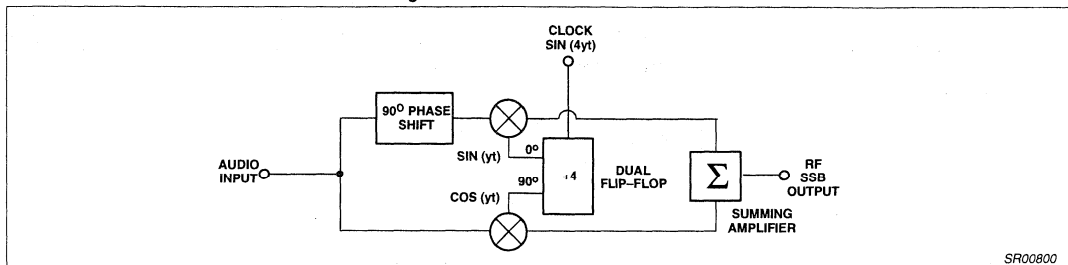
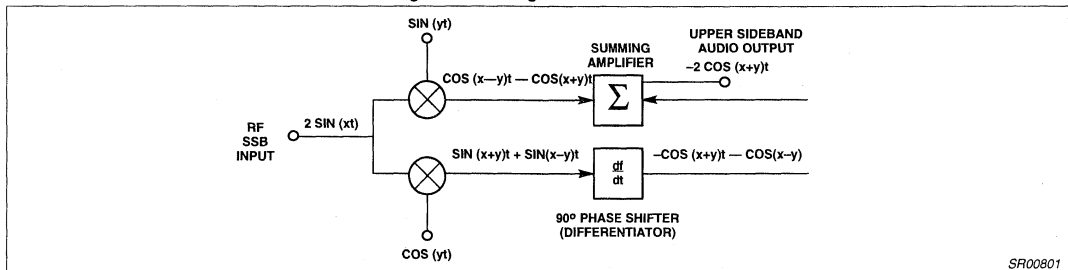

Figure 5. Phasing Method Generator
Figure 6. Phasing Method Detector with Simplified Mathematical Model
Figures 5 and 6 show block diagrams of a generator and demodulator which use the phase method. Figure 6 also includes a mathematical model. The input signal ( $\text{Cos}(Xt)$ ) is fed in-phase to two RF mixers where "X" is the frequency of the input signal. The other inputs to the mixers are fed from a local oscillator (LO) in quadrature ( $\text{Cos}(Yt)$  and  $\text{Sin}(Yt)$ ), where "Y" is the frequency of the LO signal. By differentiating the output of one of the mixers and then summing with the other, a single sideband response is obtained. Switching the mixer output that is differentiated will change the